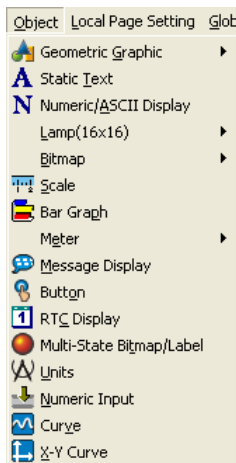

Figure 2-11 Menu bar—Object
- **Object:** It provides the objects which can be used and edited in a text panel, as shown in Figure 2-11. Please refer to chapter 4 for more information.